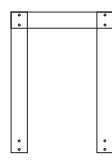

Fig.1
1. Fix the position of the guidance drawing : (Fig.1)